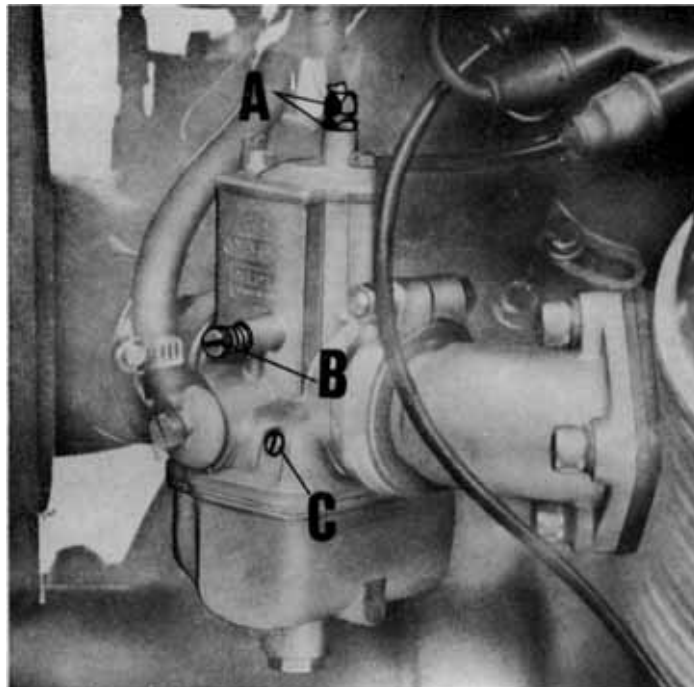

Fig. 13
2. Check synchronization of both gas valves with the filter box and the Inlet sleeve disconnected. Turn the throttle grip keeping at the same time your fingers on the carburetor slides to feel if both valves open by the same amount and simultaneously. Should one valve open before the other, this can be corrected by setting screw A (See fig. 13) in the position where by turning the throttle both valves open simultaneously.
3. Adjust the idling speed by acting on screw C (See fig. 13). Tighten the screw to decrease the flow and vice versa to increase it. To adjust, tighten and then turn screw out 1 1/2 turns for the L/H carburetor and 1 3/4 to 2 turns for the R/H carburetor.
4. Disconnect the R/H cylinder plug lead and after starting the engine, ensure that the engine stops after firing 4 or 5 times. If it dies out sooner or later, it is necessary to adjust idling screw B (See fig. 13) setting it at the point where the engine will stop after it has fired 4 or 5 times.
The same operation should be repeated on the right hand cylinder, with the left hand plug lead disconnected. If the R/H cylinder is normal, the engine should stop after firing 4-5 times. If not, screw B (See fig. 13) should be adjusted to the position where it does so. Finally, the left cylinder plug lead should be re-connected.